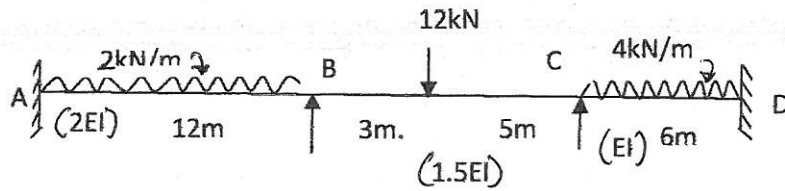

Fig. 2.
Q.5 Analyse the beam loaded and supported as shown in fig. 2, by using stiffness matrix method. 17